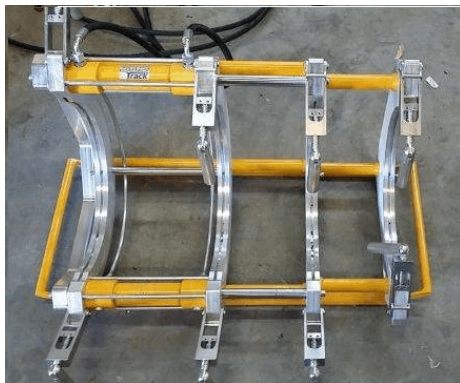

Figure 3a: Track 315
1. A **base framework** (*Figure 3a*), consisting of a frame equipped with handles for transportation (for those models whose weight allows this). The frame incorporates four lower aluminium clamps and four detachable upper clamps made of aluminium too.